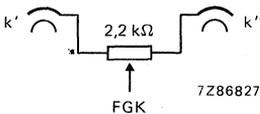

Fig. 8.
*Viewing section* (voltages with respect to viewing gun cathode FGK, Fig. 8)